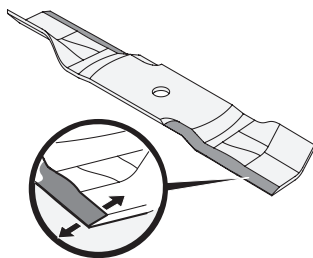

Fig. 47
3. To properly sharpen the cutting blades, remove equal amounts of metal from both ends of the blades along the cutting edges, parallel to the trailing edge, at a 25°-30° angle. Always grind each cutting blade edge equally to maintain proper blade balance (Fig. 47).